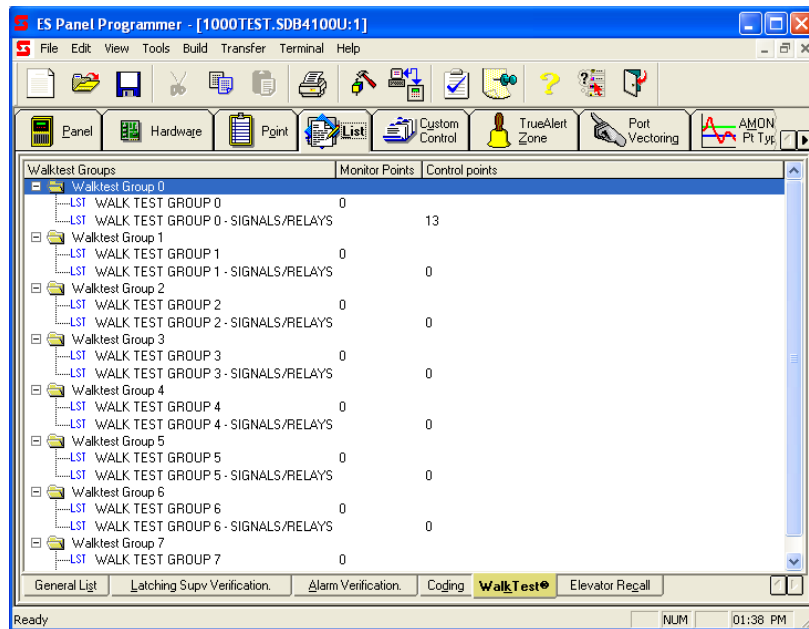

Figure 9-15. WalkTest Tab
2. Click on the WalkTest tab at the bottom of the List Window. A screen similar to the one shown in Figure 9-15 appears.